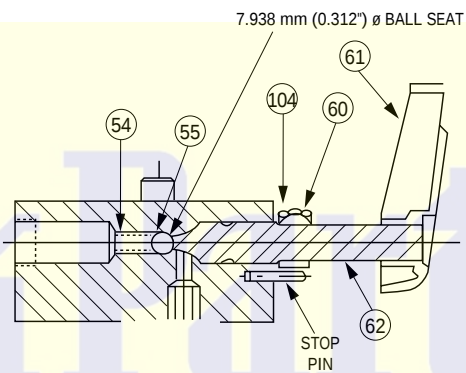
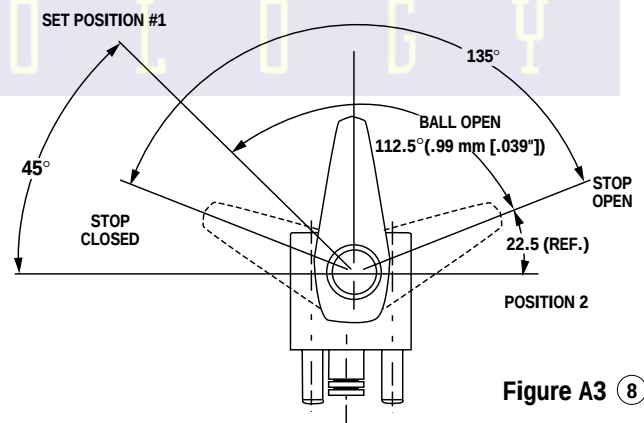

Figure A2 (8)
Figure A3 (8)
Refer to Figures A2 and A3. Thread in the shaft (62) until it just touches the check ball (55) (in its spring-loaded closed position). Slide collar (104) on the shaft. Position the handle (61) at the location "Position 1" (Figure A3), with the other surface of the handle flush with the end of the shaft. Lock in place. Rotate the handle to "Position 2" (Figure A3). Slide the collar toward the valve body until it contacts the 15.9 mm (5/8") diameter portion of the control shaft. Rotate the lock collar clockwise until it touches the stop pin, and lock in place.